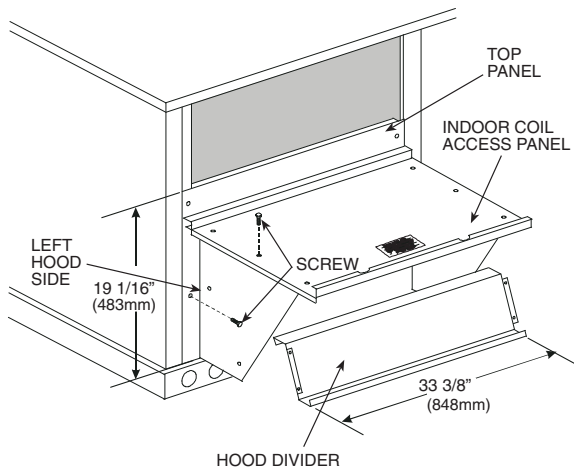
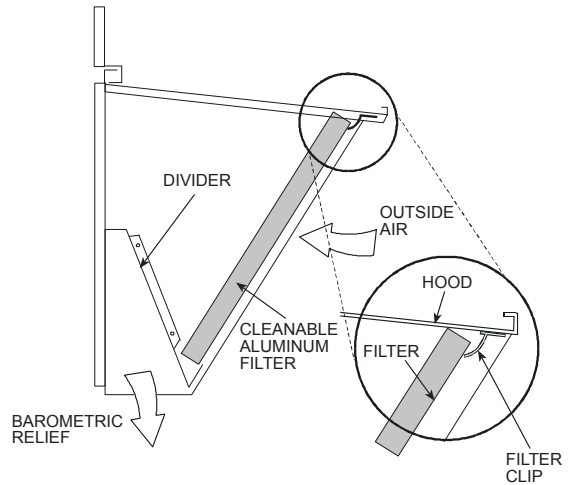

Fig. 13 — Economizer Hood Construction
Fig. 14 — Economizer Filter Installation
- Swing out indoor coil access panel and insert the hood sides under the panel (hood top). Use the screws provided to attach the hood sides to the hood top. Use screws provided to attach the hood sides to the unit. See Fig. 13.
- Insert the hood divider between the hood sides. See Fig. 13 and Fig. 14. Secure hood divider with 2 screws on each hood side. The hood divider is also used as the bottom filter rack for the aluminum filter.
- Open the filter clips which are located underneath the hood top. Insert the aluminum filter into the bottom filter rack (hood divider). Push the filter into position past the open filter clips. Close the filter clips to lock the filter into place. See Fig. 14.